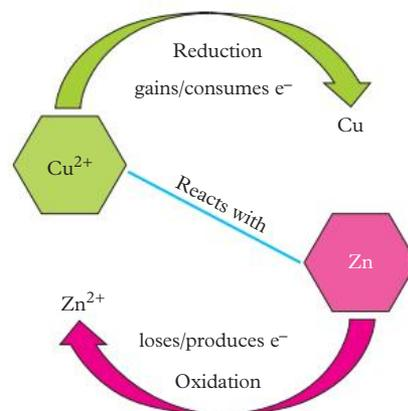

FIGURE 8 The 'S' configuration for the reaction between Zn and Cu²⁺
You can use the RED SOX method to show that copper(II) ions are the strongest oxidant (top left), and react with solid zinc, the strongest reductant (bottom right) spontaneously (Figure 8).